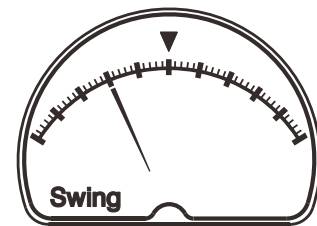

Figure7-7-2:Pressure swing indication
**Example: for the ADT681 with (0~100) kPa, if the current pressure reading is 50.01kPa and the previous pressure was 50.11kPa, the fluctuation degree for 2 separate pressures is -0.1%FS, as figure 7-7-2 shows.**